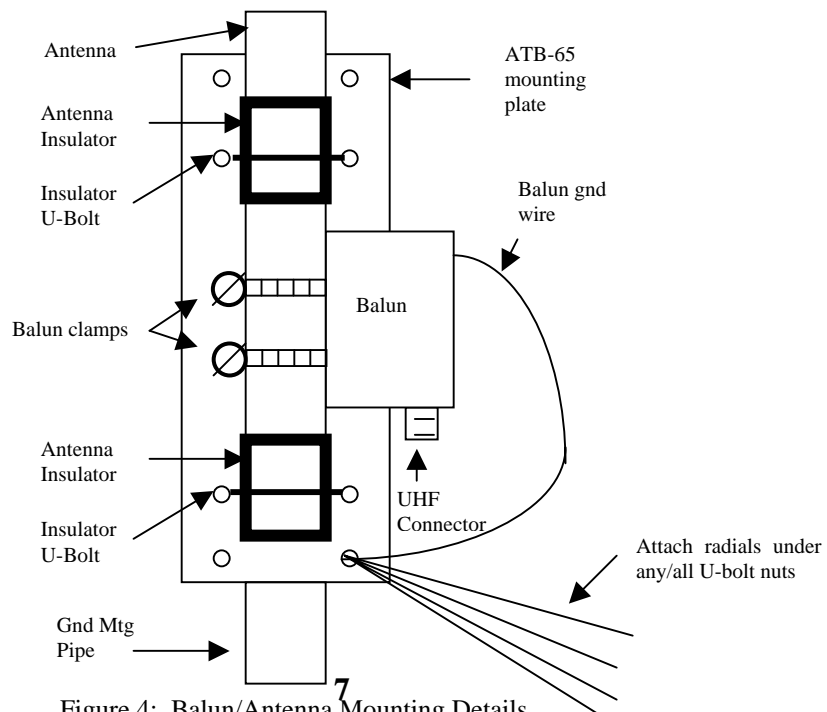

Figure 4: Balun/Antenna Mounting Details
- 1) Unscrew the balun pipe clamp mounting screws such that the clamps can be fully opened. Place the balun alongside the antenna mast with the balun pipe clamps located between the antenna insulating tubing and the UHF connector oriented down. Close the pipe clamps around the antenna and tighten the clamps securely. The balun pipe clamps provide the antenna feed. Attach the balun ground wire with the 3/8" lug to a bottom 3/8" U-bolt. See Figure 4 below.